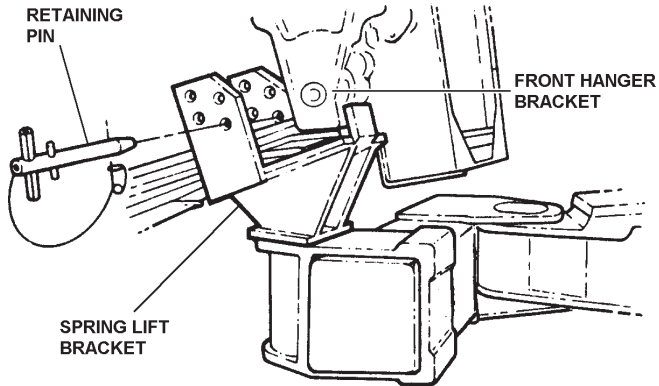

FIGURE 4A.9
- (i) Insert retaining pin through lowest unobstructed hole of spring lift bracket and secure with safety pin. Refer to Figure 4A.9.